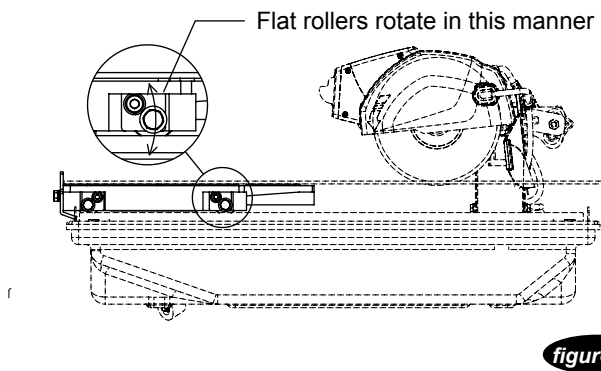

figure 11
1. Loosen the socket bolts on the flat roller plate so that the roller can swing freely about the bolt. (**see figure 11**) Do this for both flat roller plates.